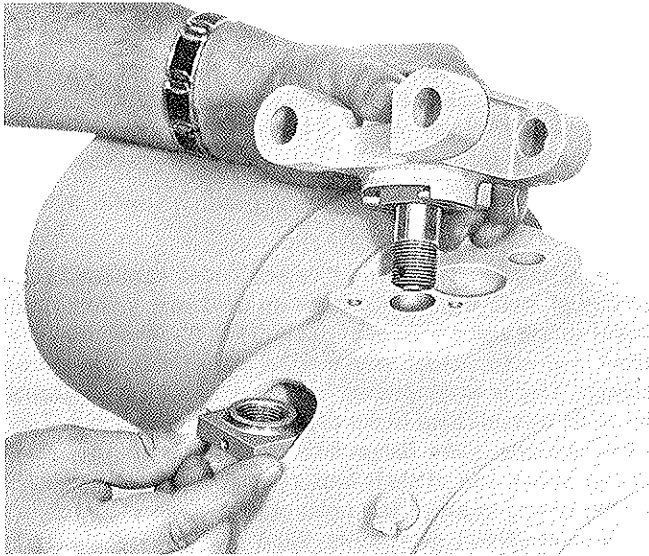

Figure 7-27. Removing Lug Suspension Bracket
(1) On 1/8 thru 1 ton models (prior to model 325079-1) drive the grooved pin from square nut inside hoist frame and remove suspension lug by unscrewing the suspension stud from the square nut within the frame. Nut may be reached thru access hole in side of hoist frame (see figure 7-27). When reassembling this unit use a new grooved pin and be certain to stake nut at pin hole after replacing pin.